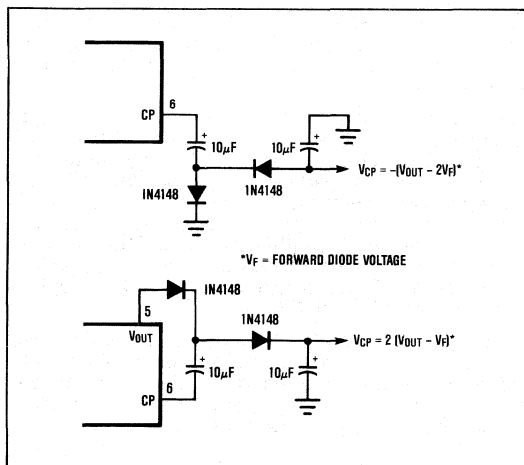

Figure 3. Using the Charge Pump (CP) output as a voltage inverter and/or doubler. Both circuits can be used together.
The Charge Pump (CP) output, pin 6, is a low impedance buffer which swings from Ground to  $V_{OUT}$  at the oscillator frequency. Two external capacitors and diodes can be connected as shown in Figure 3, to generate a negative output voltage of  $-(V_{OUT} - 1.2V)$  or a positive output of  $2(V_{OUT} - 1.2V)$ . 1.2V is the forward drop of two silicon diodes. Both circuits can be used at once if desired. With 10μF capacitors, the output impedance of  $V_{CP}$  is about 30 ohms. If space is critical, the capacitors can be reduced, but with a slight increase in output impedance and  $V_{CP}$  output ripple. See also Typical Applications, Figure 4 and 5.